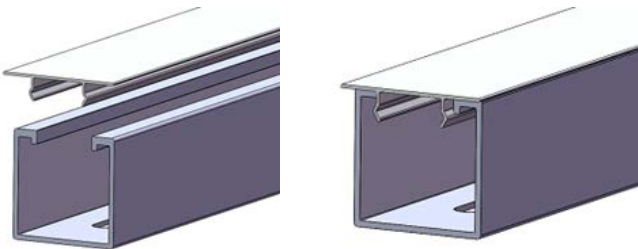

Figure 19
6) Align and click MT-rail cable tray cover in as showed in Figure 19.